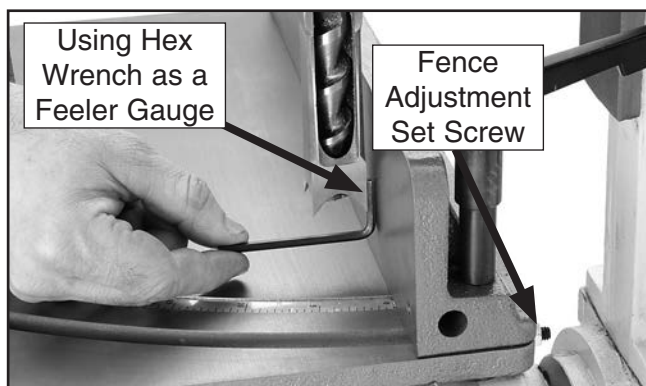

Figure 34. Checking if fence is parallel to the chisel along its travel path.
6. Using the hex wrench, check the gap between the chisel and fence (see **Figure 34**).